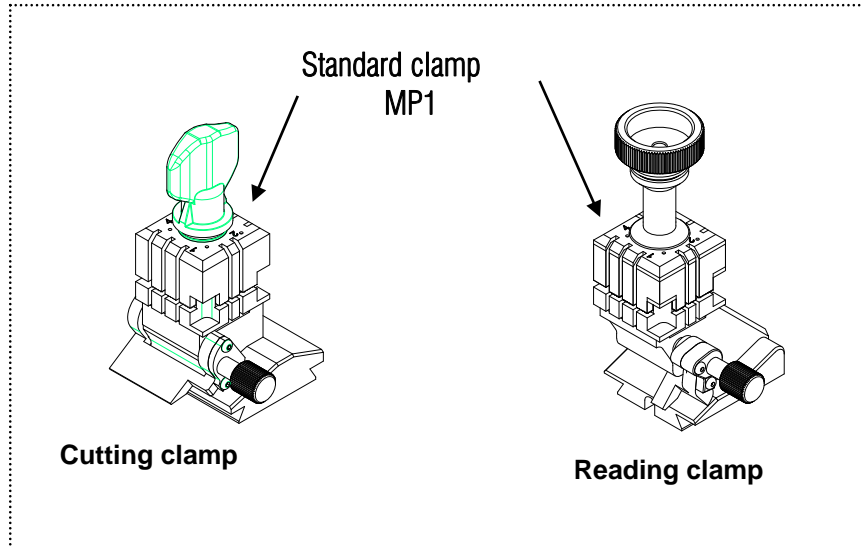

Fig.11
1. AVANTCODE (STANDARD): Clamp and reading clamps (Fig.11)